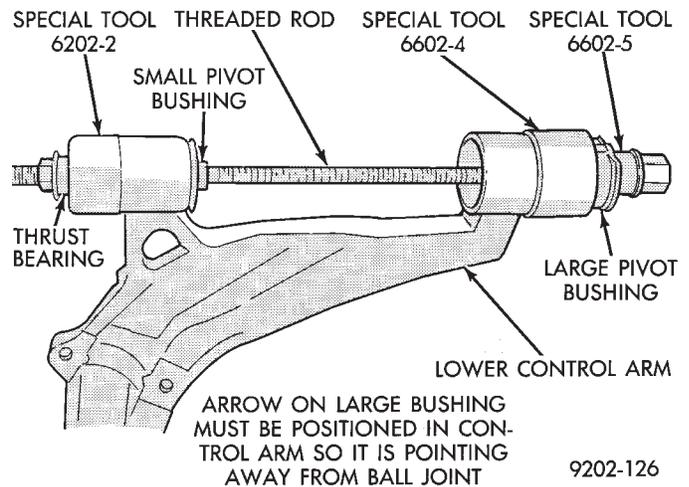
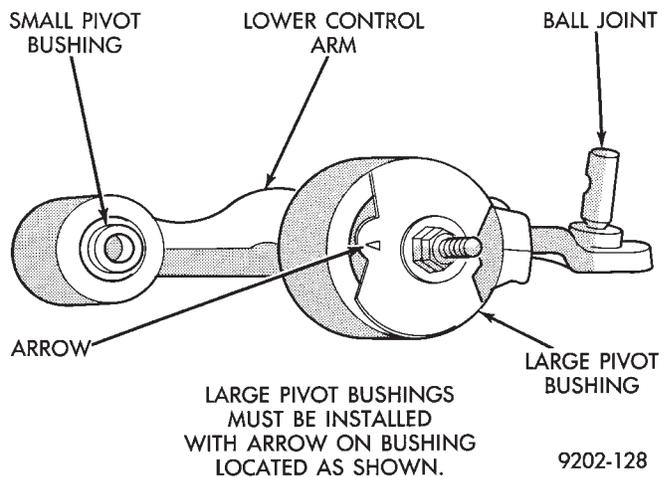

Fig. 10 Bushing And Tool Position For Installation In Control Arm
Fig. 11 Positioning Control Arm Bushing
(3) Install the pieces assembled in step 2 through the hole in the small pivot bushing and the large pivot bushing hole in the lower control arm. At the large pivot bushing hole in the lower control arm assemble the following special tool pieces. Large Bushing Sizer, Special Tool 6602-4, large lower control arm pivot bushing, large bushing disc Special Tool 6602-5, thrust bearing, washer and nut (Fig. 10). Lubricate the installer cone and new bushing using Mopar® Silicone Spray Lube or equivalent.
(4) Hold the threaded rod stationary and turn the long nut until the bushing is fully installed into the control arm. Be sure that the flanges of the bushing are fully expanded around the control arm bushing holes.
(5) If the position of the large lower control arm pivot bushing (Fig. 11) moved during bushing installation. Install a nut and bolt through the bushing
sleeve and tighten it down (Fig. 11). Using a wrench rotate the bolt until the bushing is in the correct position (Fig. 10)